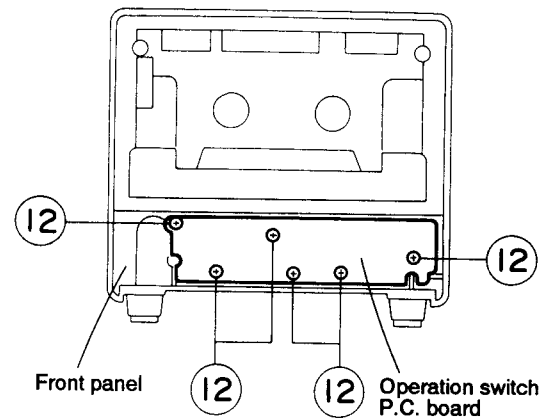

Fig. 5-17
3. Remove the six screws ⑫ retaining the operation switch P.C. board (See Fig. 5-17).